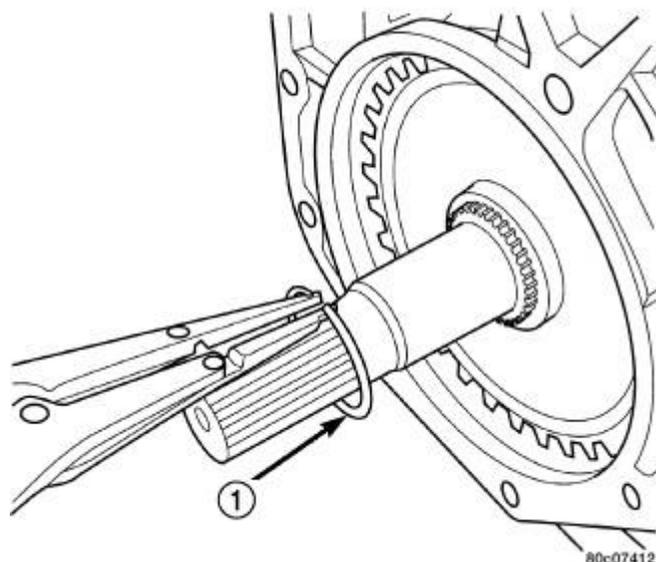

Fig. 70: Park Sprag Gear Snap-Ring
21. Install the snap-ring (1) to hold the park sprag onto the output shaft. Refer to **Fig. 70**.